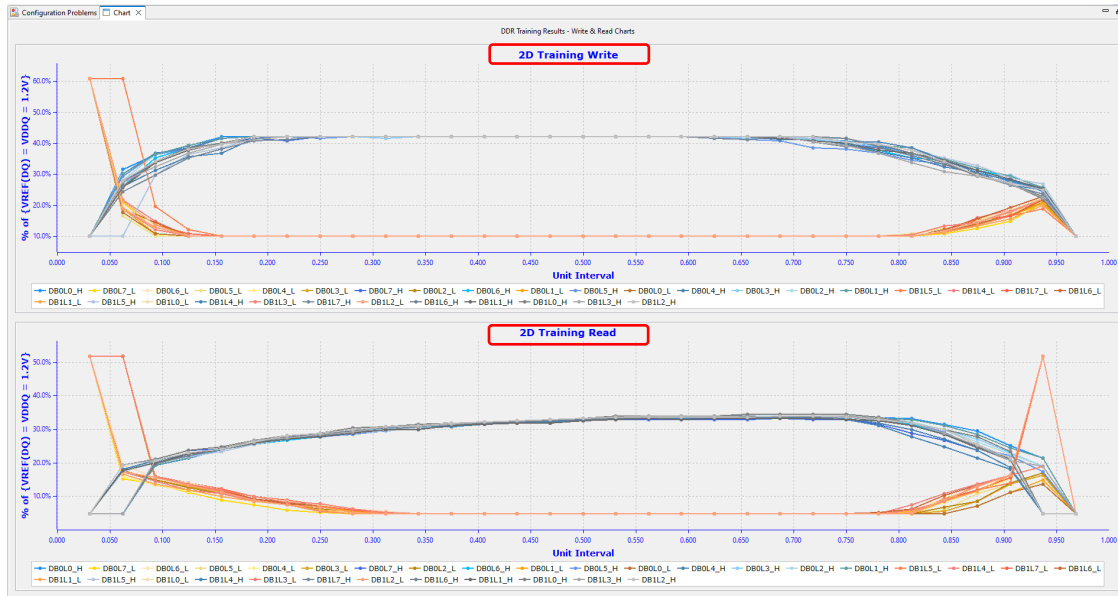

Figure 3-26 Write and Read charts
- (2) Specify the full paths for the DDR Tools file (\*.mot) and the DDR configuration files (\*.c).
- (3) Enable “Eye Opening check” to evaluate the timing margin between the DQS and DQ signals, ensuring reliable data capture.
- (4) Enable “Stress checker” to verify DDR stability under harsh conditions such as temperature fluctuations, voltage variations, and extended operation. Four test modes are available (selectable individually or in combination).
- (5) Select the correct COM port associated with the host PC's connection to the target board.
- (6) Select ‘Start’ button to initiate DDR memory validation on the RZ/G board.
- (7) Once validation is completed, all logs will be listed as hyperlink in the “Test results” table, making them easy to identify and access.
- (8) Upon completion of the “Eye Opening check”, an Eye-Opening chart is generated. This chart is a graphical representation which shows the voltage of digital signals over time, helping engineers evaluate signal clarity and stability during data transmission. Click “View eye diagrams” to display the Write and Read charts. Refer to **Figure 3-26 Write and Read charts** for an example.